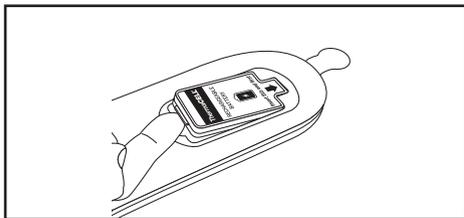

Figure 10
2. Just beyond the front edge of the foam you will feel a thin protruding hard tab on the battery. Lift the battery by the tab just enough so you can insert the tip of one finger under the battery (Figure 10). Do not lift the battery more than is required to insert a finger underneath the battery to grasp it. Do not lift the battery up any further until it is disconnected from the Insole's connector. **Do not attempt to lift batteries by grasping the battery's foam cushion as it could tear.**